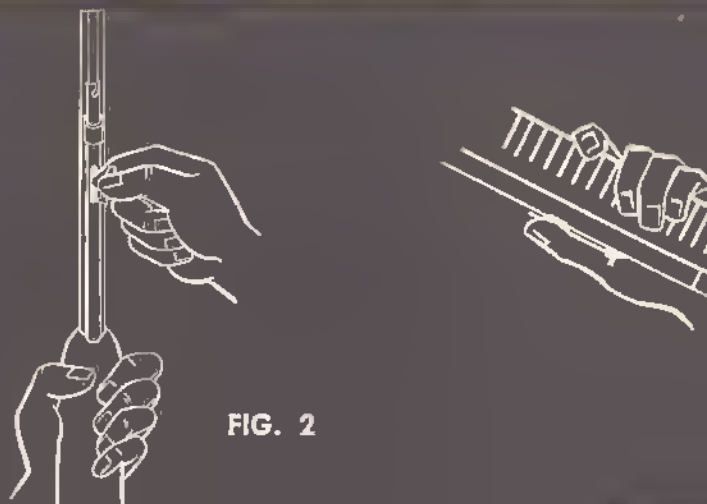

FIG. 2
**TO LOAD MAGAZINE:** With safety on, turn knurled knob on inner magazine tube, pull tube out until magazine loading port opens. Insert cartridges into magazine loading port (see Figure 2), continuing until last car-